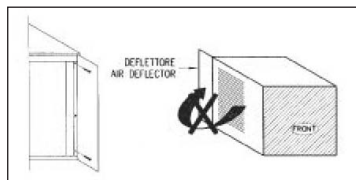

Fig 24.
13) Air deflector installation. (Fig.24) The deflector has to be installed in order to prevent the re-circulation of hot air to the condenser.